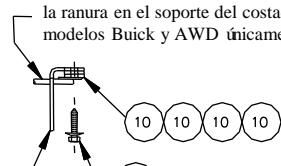
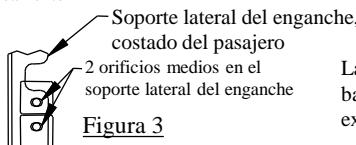

Figure 2
Figure 3
7. Remove M10 fasteners to reattach exhaust hanger and load leveling compressor, and reinstall fasteners. Note: on AWD models, it will be necessary to pass exhaust hanger through 2-3/4" long slot in side bracket and use (2) 1/4" spacer blocks, as shown in figure 2 and figure 3, to reattach exhaust hanger bracket.